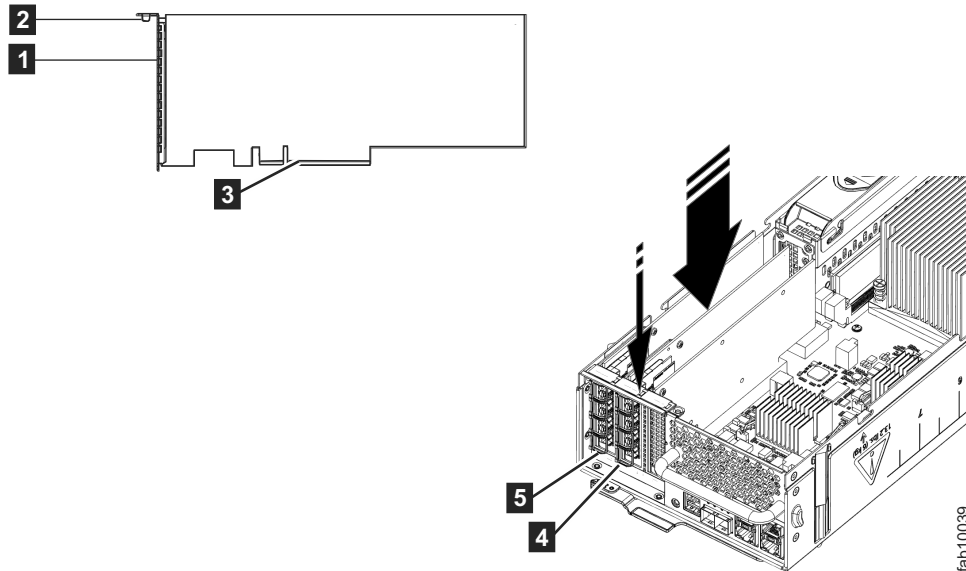

Figure 118. Installing the host interface adapter
6. Remove the replacement host interface adapter **1** from its package. Figure 118 on page 374 displays installing the host interface adapter.